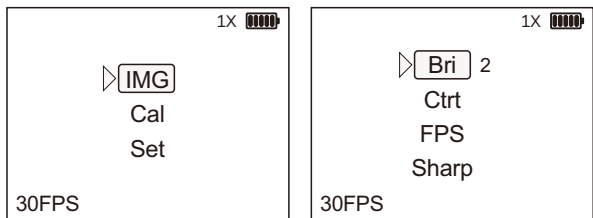

Fig 9
a. Brightness: press the **OK** button to enter the main menu interface (IMG (Image)function is selected by default). Click the **OK** button to enter the image setting interface (Bri (Brightness) function is selected by default), and then click the **OK** button to set the image brightness. Select between 1 to 6 of image brightness. using the **△** and **▽** buttons to adjust the image brightness. After setting is selected, press and hold the **OK** button to return to the previous menu. (See Figure 9)